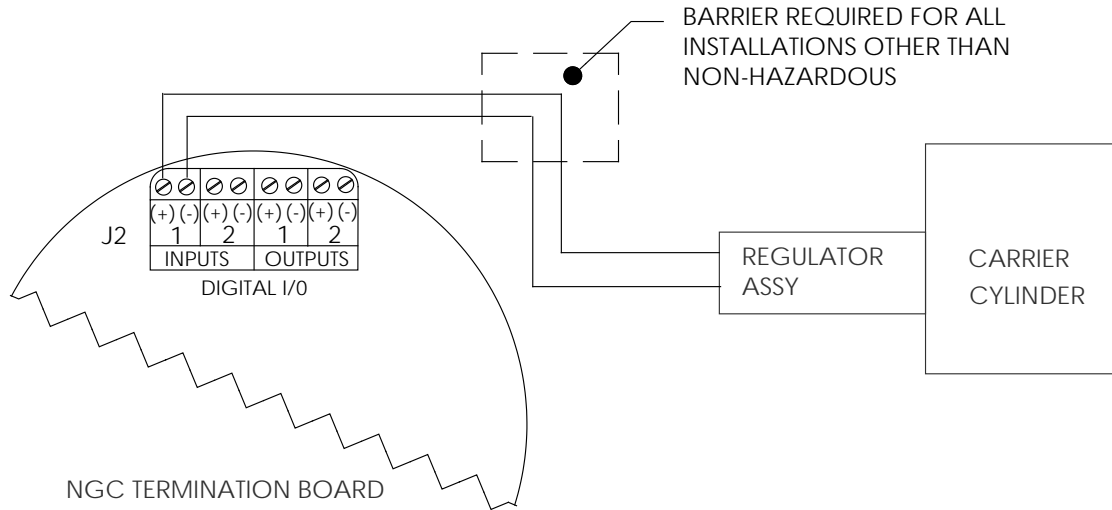

Figure 3-40 Carrier Gas Low Pressure Switch Wiring Instruction
- 4) Remove the J2 field wiring connector from the NGC termination panel located inside the rear of the enclosure (see Figure 3-40).